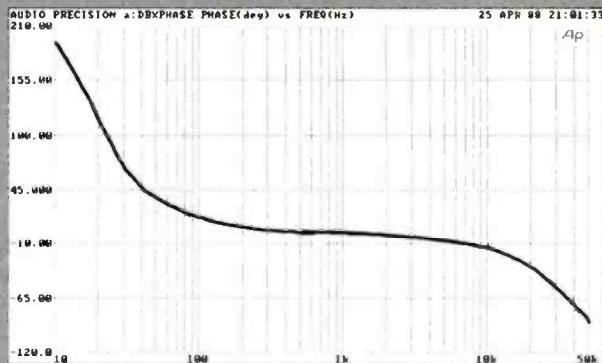

Figure 3B. Phase response of dbx system, no ATR.
**dbx**—Dbx does well compared to the other systems. The system's frequency response (again, note the expanded scale) is within spec. (See Figure 3A.) The phase response (See Figure 3B) is excellent down to about 100Hz, and then it swings almost 200° in the bottom three octaves. This response typically indicates either a high-pass filter with a very steep slope or an active balanced input with coupling capacitors that are too small in value.